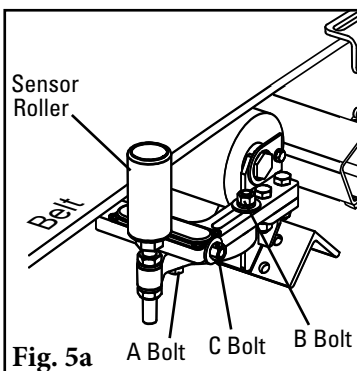

Fig. 5a
5. **Adjust sensor rollers** so they are 19mm (3/4") from the belt on each side. Adjust by loosening the "A" and "B" bolts, then turning the "C" bolts (Fig. 5a & b).